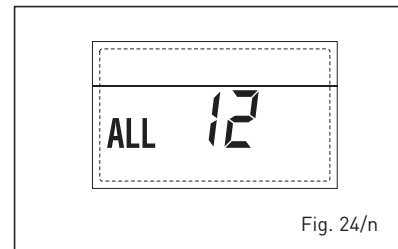

Fig. 24/n
- SAFETY THERMOSTAT INTERVENTION FIRST MIXED ZONE "ALL 20" (fig. 24/p)